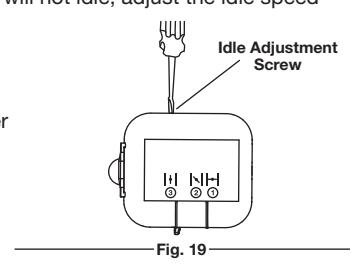

Fig. 19
The idle speed of the engine is adjustable. An idle adjustment screw is between the air filter cover and the engine starter housing (Fig. 19).
- Release the trigger and let the engine idle. If the engine stops, insert a small Phillips screwdriver in between the air filter cover and the engine cover (Fig. 19). Turn the idle speed screw 1/8 of a turn clockwise at a time until the engine idles smoothly.